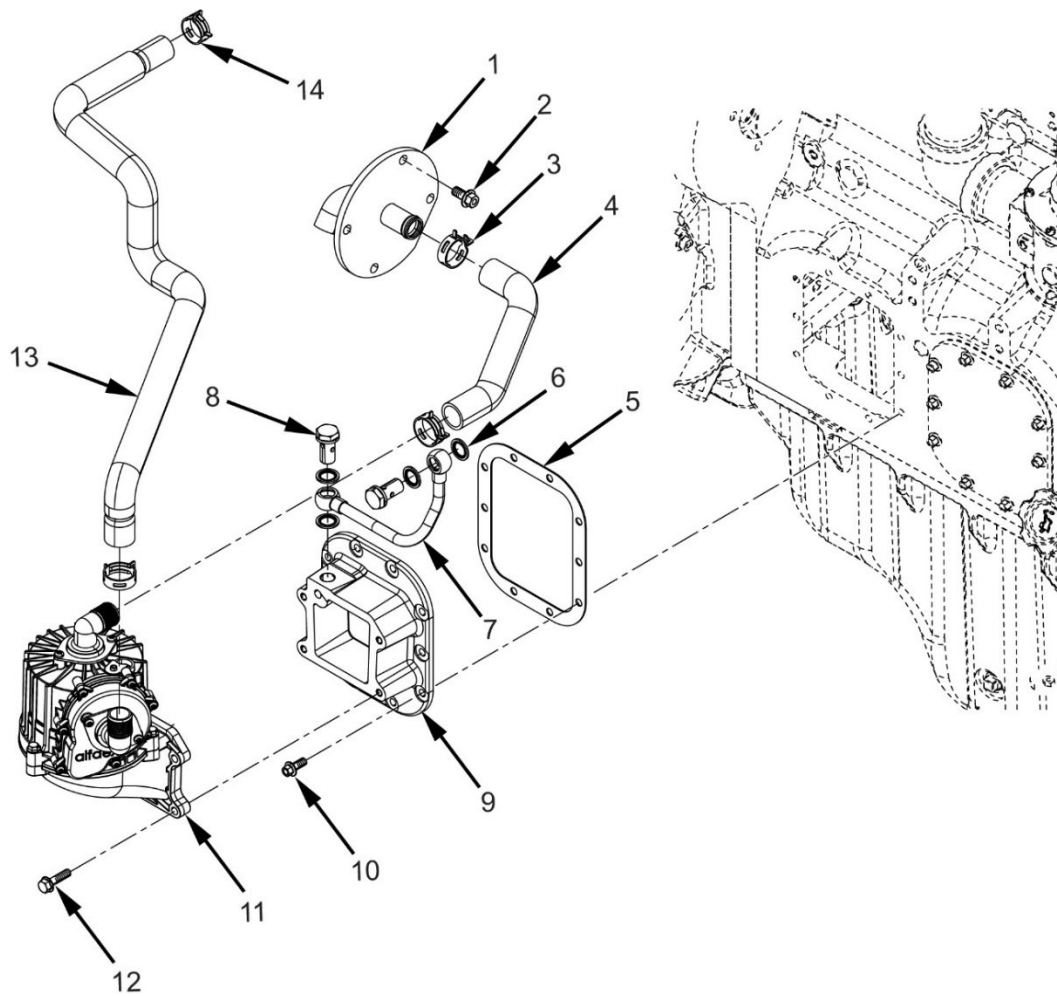

Figure 135. Breather Assembly
1. Loosen the clamps (Figure 135, Item 3).
2. Remove the hose (Figure 135, Item 4).
3. Remove the bolts (Figure 135, Item 2).
4. Remove the cover (Figure 135, Item 1).
5. Loosen the clamps (Figure 135, Item 14).
6. Remove the hose (Figure 135, Item 13).
7. Remove the bolts (Figure 135, Item 12) and remove the oil/gas separator (Figure 135, Item 11).
8. Remove the hollow screws (Figure 135, Item 8), assembled sealing washers (Figure 135, Item 6) and pipe (Figure 135, Item 7).
9. Remove the bolts (Figure 135, Item 10).
10. Remove the handhole cover (Figure 135, Item 9) and gasket (Figure 135, Item 5).
1. Place the handhole cover (Figure 135, Item 9) and gasket (Figure 135, Item 5) on the engine and secure with bolts (Figure 135, Item 10).
2. Install pipe (Figure 135, Item 7) with hollow screws (Figure 135, Item 8) and assembled sealing washers (Figure 135, Item 6).
3. Install the oil/gas separator (Figure 135, Item 11) with bolts (Figure 135, Item 12).
4. Install hose (Figure 135, Item 13).
5. Tighten the clamps (Figure 135, Item 14).
6. Install the cover (Figure 135, Item 1) and secure with bolts (Figure 135, Item 2).
7. Install the hose (Figure 135, Item 4).
8. Tighten the clamps (Figure 135, Item 3).